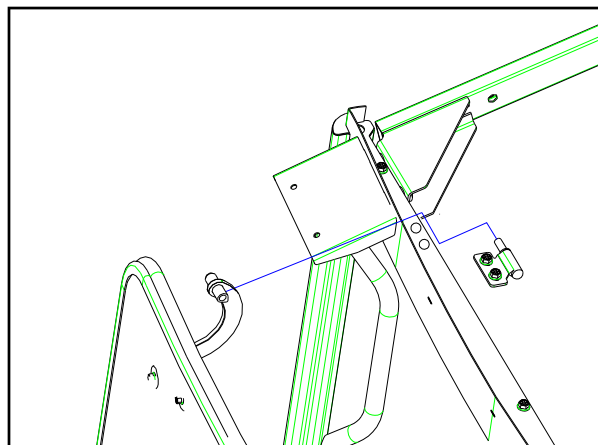

Fig. 7.2
7.2 See fig. 7.2. With assistance, set the windshield onto the vehicle and twist the latches to hold it in place. Slide the hinge pins, with hinge washers, into the windshield hinge sleeves, ensuring that the pins remain axially aligned and facing outboard. Fasten the hinge pins to the vehicle using the factory installed inserts and the hardware listed below. **Install finger tight at this time.**